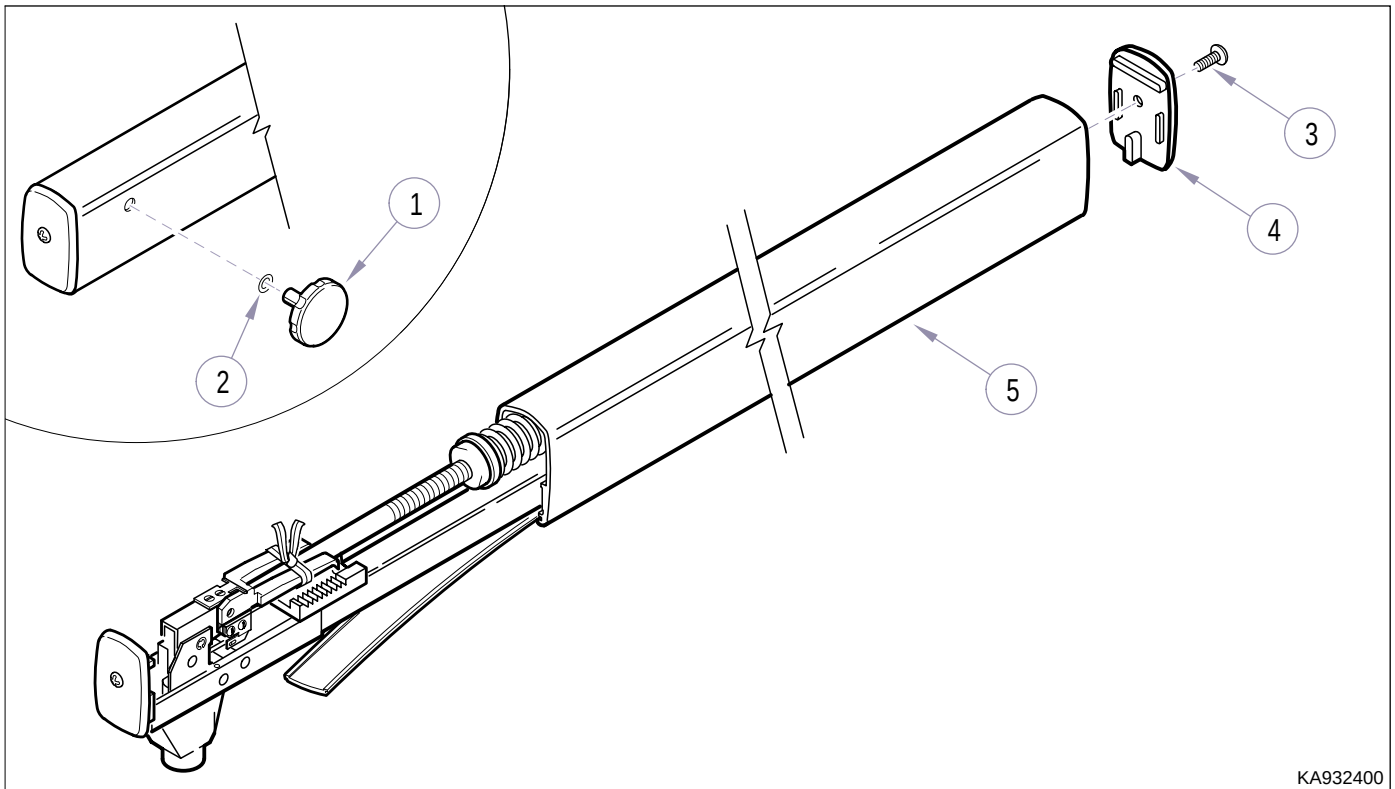

Figure 4-14. Flex Arm Cover Removal
- (2) Unscrew knob (1, Figure 4-14); then remove knob and washer (2) .
- (3) Remove screw (3) and end cap (4).
- (4) Remove flex arm cover (5).